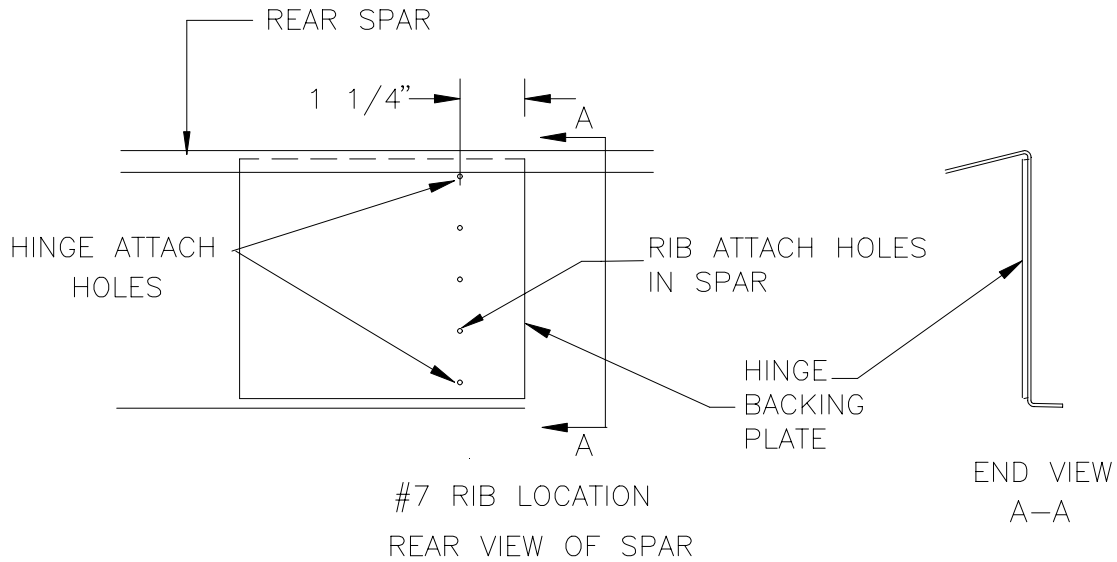

Figure 8.5.4
- 6) At the #7 rib location position a Hinge Backing Plate. Back drill through the Rear Spar into the Hinge Backing Plate the rib attach holes to #40 as in Figure 8.5.4.